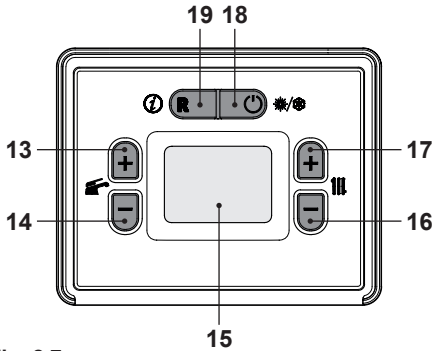

Fig. 2.7
- Press the key 18 until the  symbol appears on the display Fig. 2.7.
The output temperature of C.H. water can be adjusted by pressing keys 16 (reduce) and 17 (increase) (Fig. 2.7) from a minimum of about 25°C to a maximum of about 85°C or from a minimum of about 50°C to a maximum of about 80°C or from a minimum of about 25°C to a maximum of about 55°C (see "Selecting the heating temperature set" on page 65). Press one of the two keys once to display the "set" value. Press again to access the modification.
However, if the ambient temperature is not comfortable, the flow temperature of the heating system can be adjusted by  $\pm 15^{\circ}\text{C}$  by pressing on keys 16 (reduce) and 17 (increase) (Fig. 2.7).
The temperature of the D.H.W. can be adjusted by pressing keys 13 (increase) and 14 (reduce) (Fig. 2.7) from a minimum of about  $30^{\circ}\text{C}$  to a maximum of about  $60^{\circ}\text{C}$ . Press one of the two keys once to display the "set" value. Press again to access the modification.